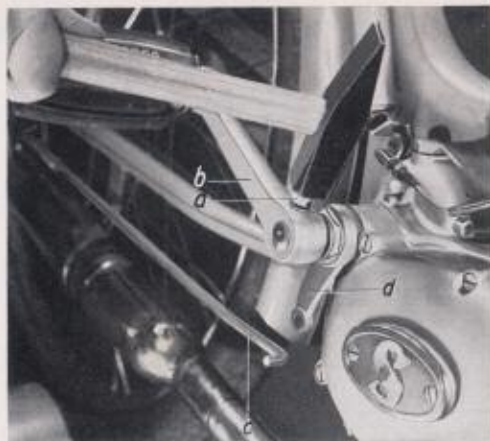

Fig. 10
- 2.7 Remove the pedals. Loosen the nut (a) on both pedals, and screw back slightly (screw spanner SW 10). Loosen both cotters by tapping gently with a hammer, remove both nuts, washer and cotters. Subsequently remove left and right pedals (b). Disconnect brake-rod linkage (c) at the engine brake lever (d) after loosening the split pin. (Fig. 10)